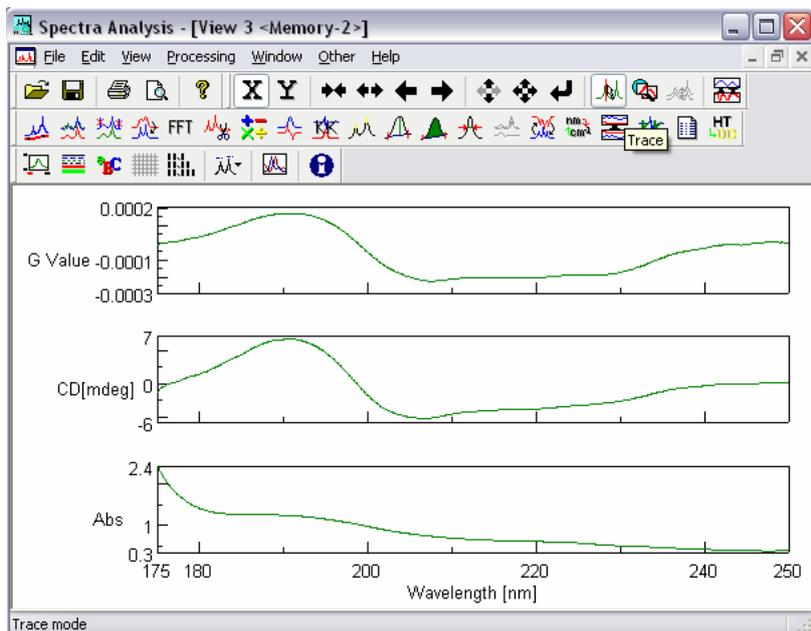

Figure 7.12 Spectrum View for G-value calculation
- (2) Click on [Processing] - [CD-Options] - [G-value...]. G-value, CD, and Abs are displayed as shown in Fig. 7.12 (see below).
**Note:** Figure 7.12 is shows test data. The actual G-value is different.